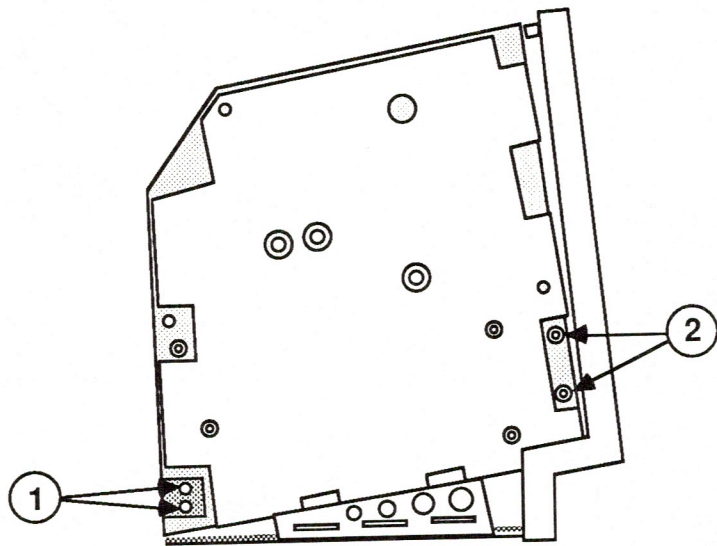

FIGURE 11
6. Replace the metal clip and the two lower left analog board screws (Figure 11, #1).
7. Replace the two lower right analog board screws (Figure 11, #2).